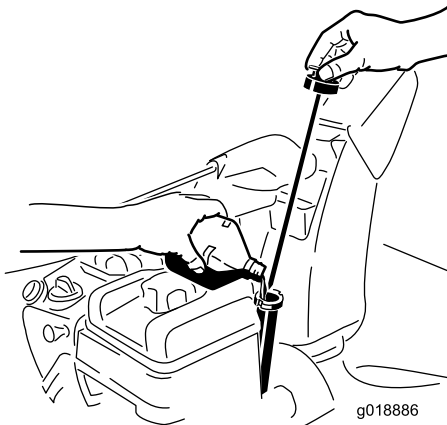

Figure 35
2. Remove the dipstick and check the oil level (Figure 35). If the oil level is below the Add mark on the dipstick, add oil. Refer to 5 Filling the Engine with Oil (page 11).